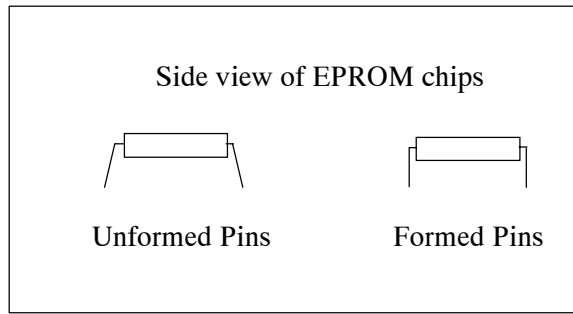

Figure 4.2. EPROM Pin Alignment
6. The pins of the new EPROMs may not be formed to fit directly into the sockets. To form the pins, hold the chip by its ends. Press the chip up against a hard flat surface with the pins running adjacent to the surface. Firmly rotate the chip to bend the pins slightly toward the other set of pins. (See Figure 4.2).